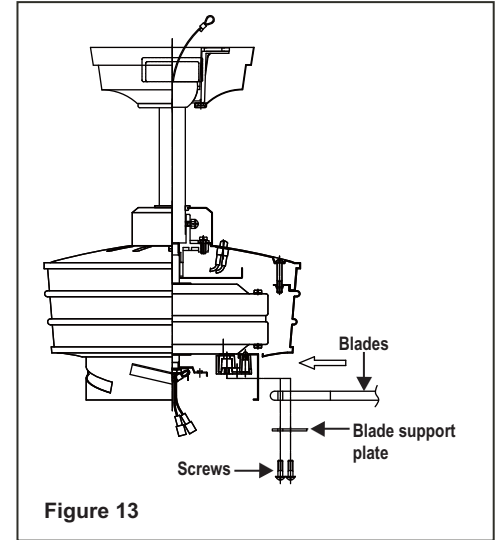

Figure 13
**Step 1.** Insert the blade through the slot in the fan housing. Align the holes in the blade and the fan motor assembly and secure with the blade support and blade screw with lock washer. (Fig. 13)